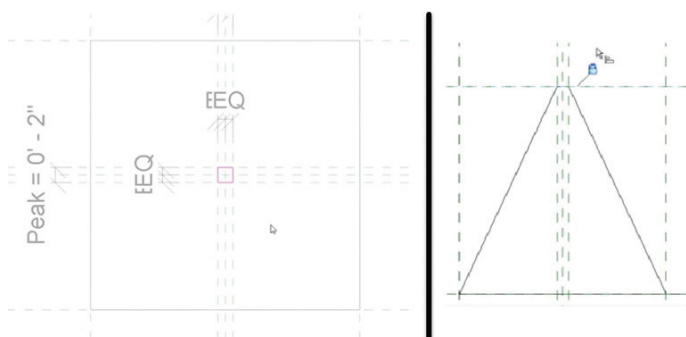

Figure 4.
7. Align and lock the top of the blend to the top reference plane. See Figure 4.